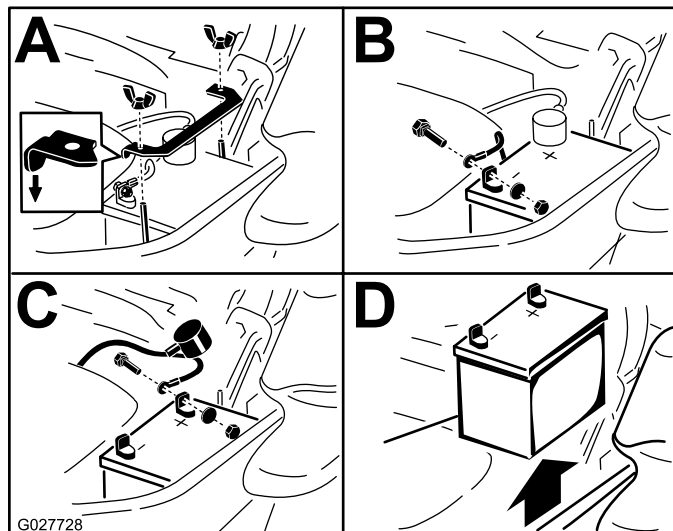

Figure 72
3. Remove the battery as shown in Figure 72.
**Note:** Position the battery in the tray with the terminal posts opposite from the hydraulic tank (Figure 72).